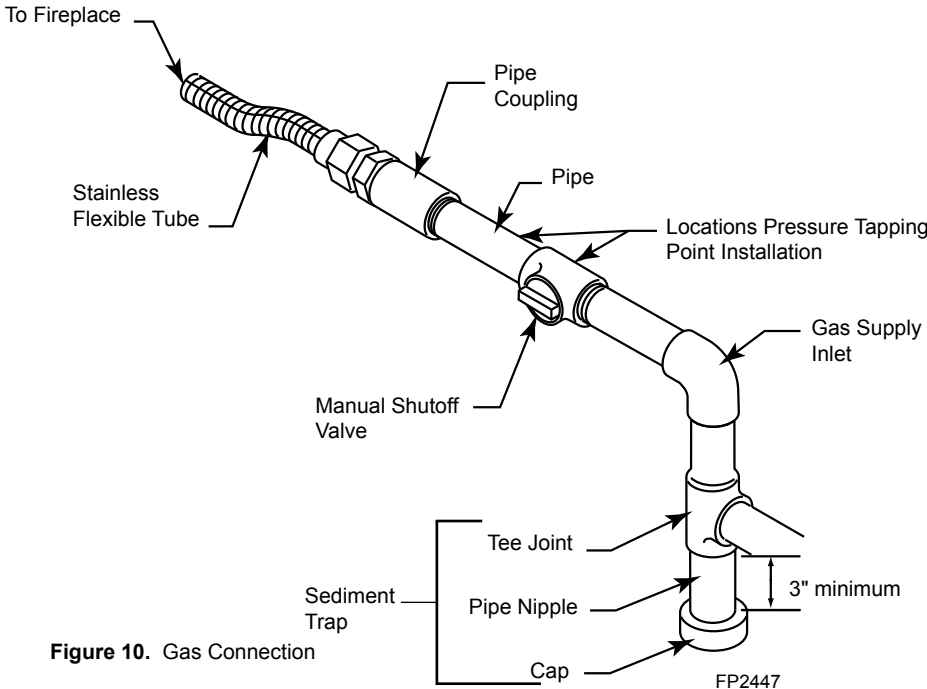

Figure 10. Gas Connection
4. Plumb gas line. Refer to the Connect the Gas (page 11, Figure 10) section found in this manual. (Gas connections should only be performed by an experienced, licensed/certified service person).
Use new black iron or steel pipe. Internally tinned copper or copper tubing can be used per National Fuel Code, section 2.6.3, providing gas meets hydrogen sulfide limits, and where permitted by local codes. Gas piping system must be sized to provide minimum inlet pressure (Listed on Data Plate) at the maximum flow rate (BTU/hr). Undue pressure loss will occur if the pipe is too small. A manual shutoff valve must be installed upstream of the appliance. Union tee and plugged 1/8" NPT pressure tapping point should be installed upstream of the appliance. Figure 10
A sediment trap should be installed upstream to prevent moisture and contaminants from passing through the pipe to appliance controls and burners. Failure to do so could prevent the appliance from operating reliably. Figure 10